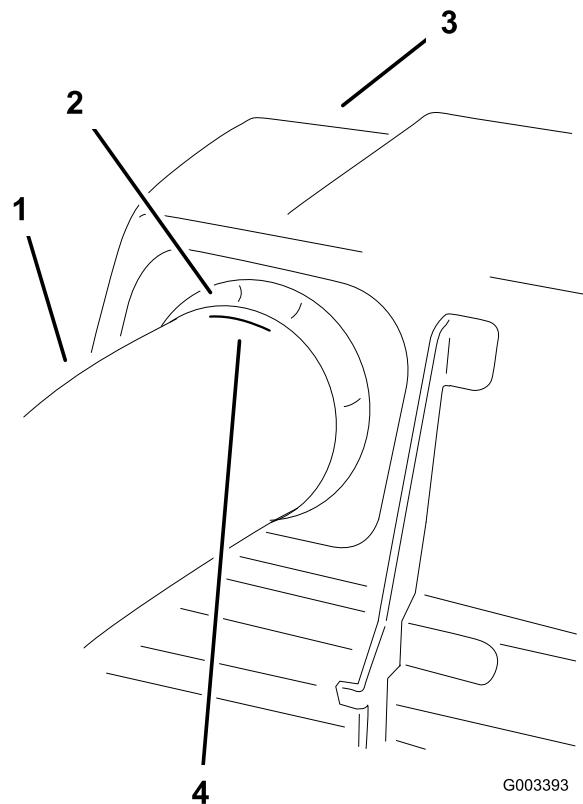

Figure 22
- 7. Once the 3/4 inch (19 mm) measurement has been achieved, mark the upper tube on the out side where the rubber seal protrudes out. This is marked to ensure the correct position for the upper tube when drilling the holes and connecting the upper and lower tubes (Figure 22).
11. Check to make sure the mark from Figure 22 is still in place.